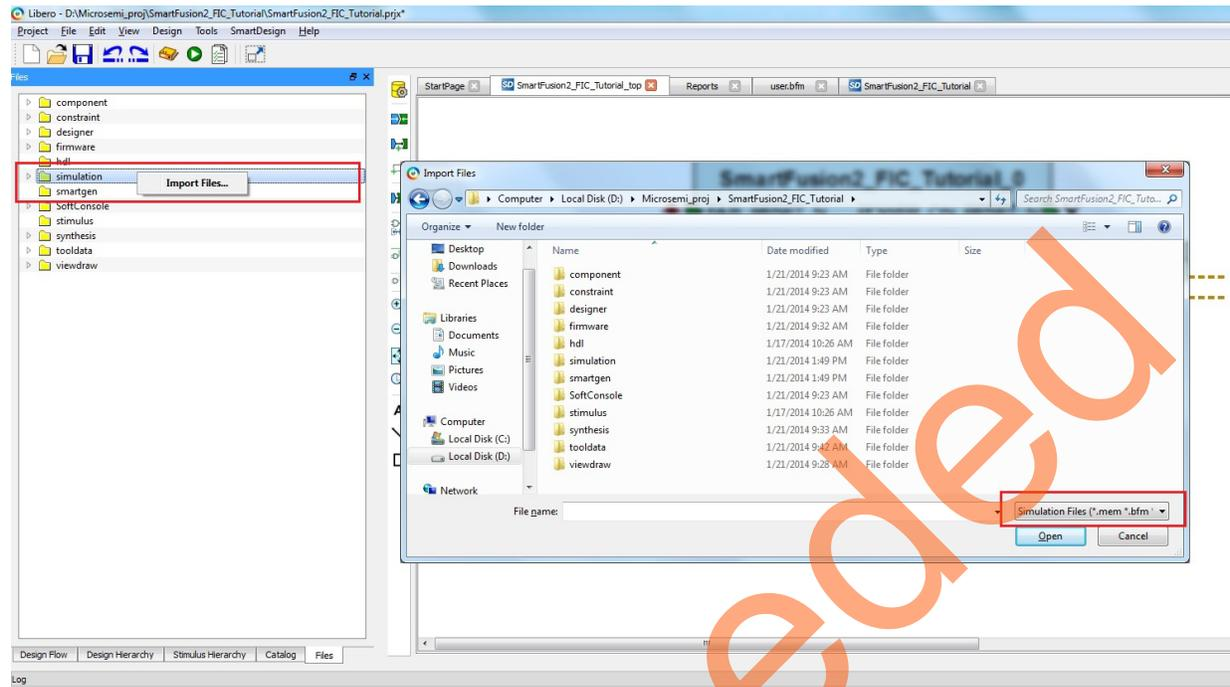

Figure 22 • Import bfm file
1. For SmartFusion2 Evaluation Kit Board, right-click the simulation under project files and select import files to import the user.bfm file which is located in downloaded design files (`\\SmartFusion2_FIC_Tutorial_11p4_DF\\Source\\For_SF2_Eval_Kit_Board\\user.bfm`) as shown in Figure 22 or select **Files > Import > Others** to import the user.bfm file.